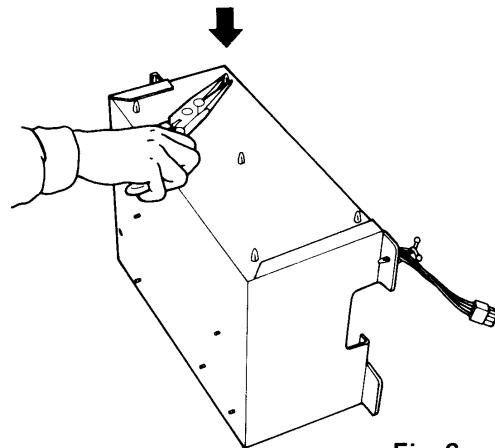

Fig. 6
- ① Disengage the electrical component box from the chassis.
- ② Use long-nose pliers from the outside of the box to unlock the 5 spacers of the PCB and push them into the box. Fig. 6